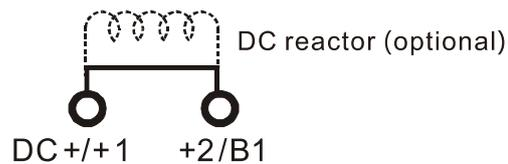

Figure 5-2
- ☑ Use the terminals, as shown in Figure 5-2, to connect a DC reactor to improve the power factor and reduce harmonics. A jumper is connected to these terminals at the factory. Remove the jumper before connecting the DC reactor.